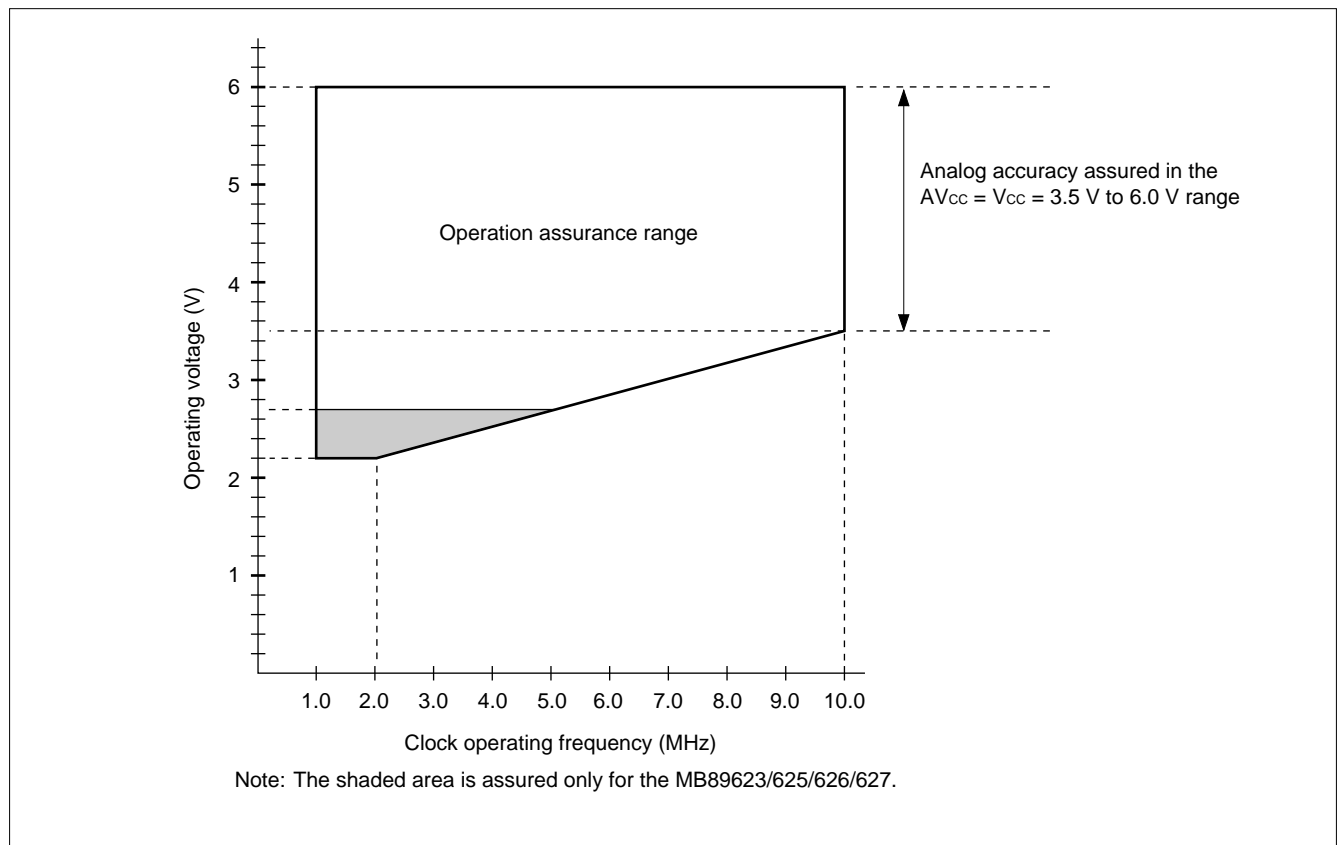

Figure 1 Operating Voltage vs. Clock Operating Frequency
*: These values vary with the operating frequency and analog assurance range. See Figure 1 and "5. A/D Converter Electrical Characteristics."
Figure 1 indicates the operating frequency of the external oscillator at an instruction cycle of $4/F_c$.